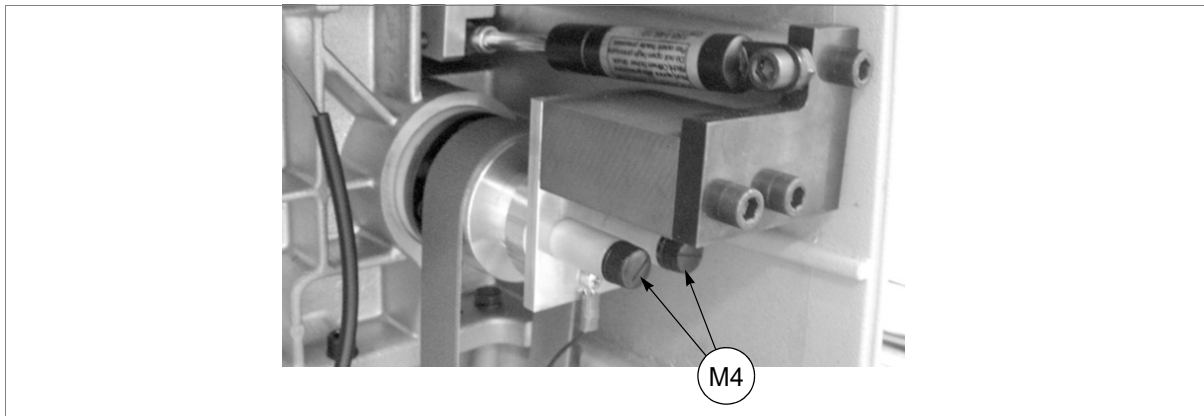

Fig. 62
- 2) unscrew the two brush caps (M4) (fig. 62), remove and fit two new brushes.